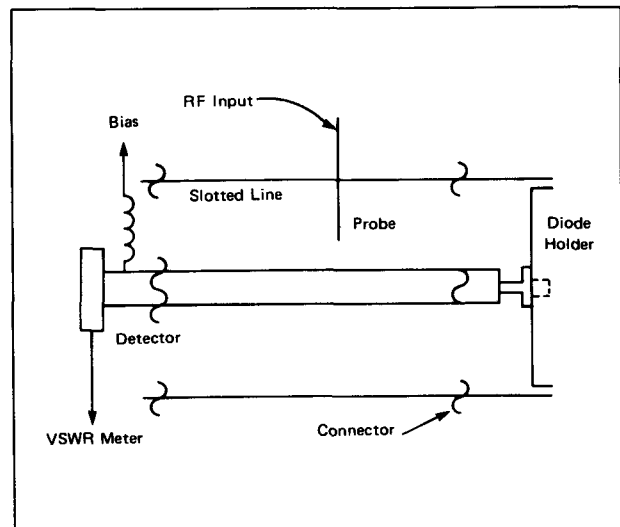

Figure 4-2. Slotted Line Q Measurement
2. Slotted Line — The diode is mounted at the end of a low loss silver plated line, as in Figure 4-2.